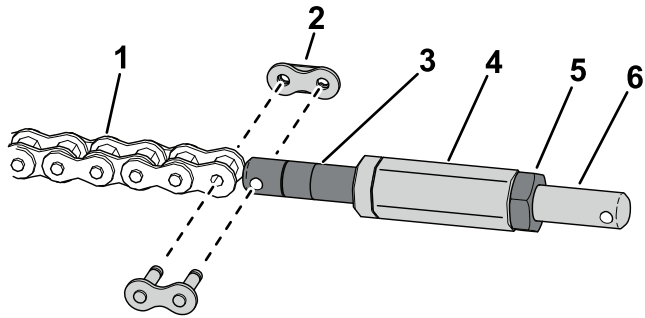

**Figure 2**
- Use a pins and a hex-head screw to secure the wheel stop to the rail assembly (Figure 2)